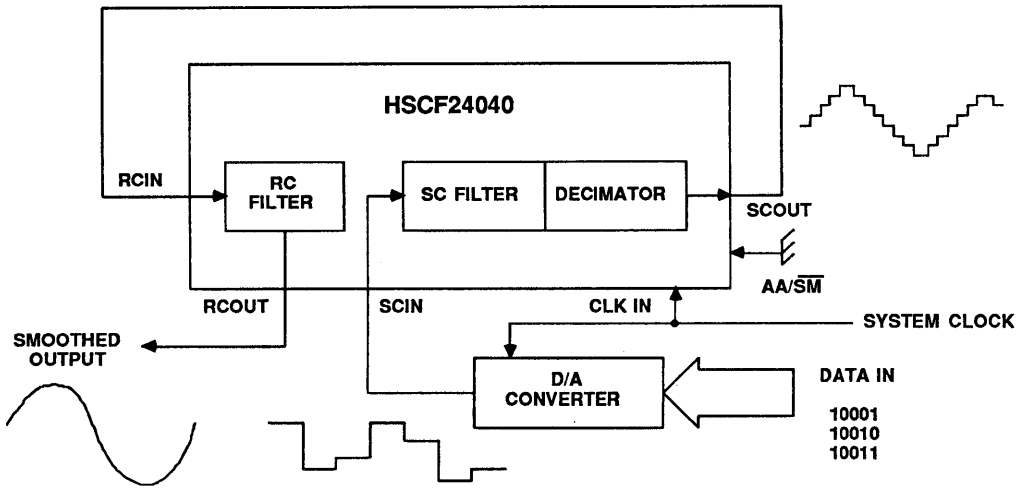

FIGURE 3 - THE HSCF24040 AS A SMOOTHING FILTER FOR A D/A CONVERTER
Figure 3 illustrates how the HSCF24040 might be used for smoothing the output from a D/A converter. In this case, the D/A output is fed into the SCIN input of the device. The SCIN input is enabled by tying AA/SM to ground. The SCOUT output is fed externally into the RCIN input. The smoothed output is finally brought off-chip via the RCOUT pin. (Note that the smoothed output will not correct for the inherent sin(X)/(X) droop of the original D/A converter output).